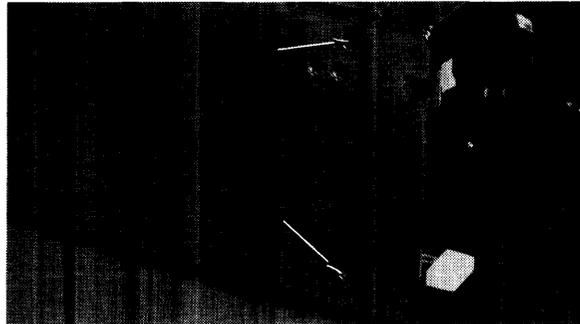

Figure 2-15. Fan Housing Screws
3. Remove the four screws holding the fan housing in place. Refer to Figure 2-15.